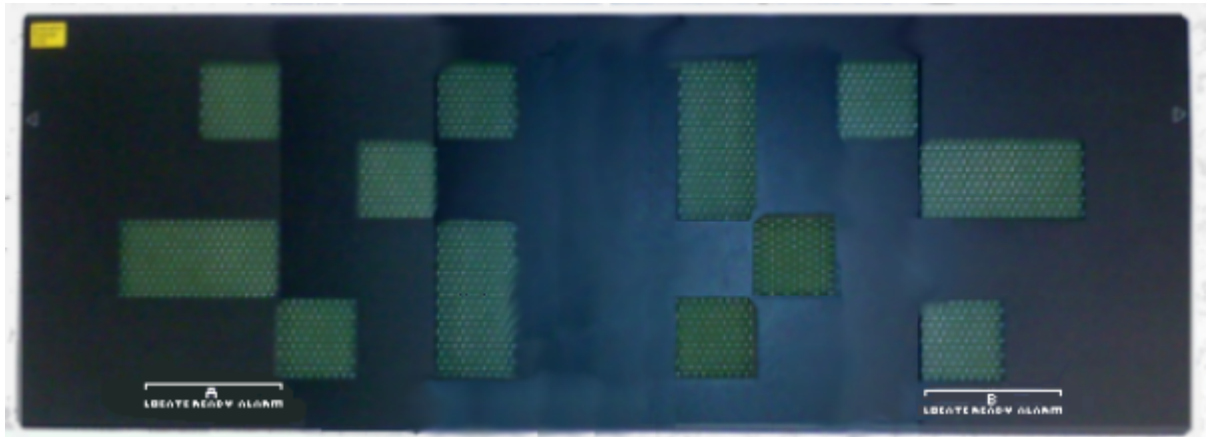
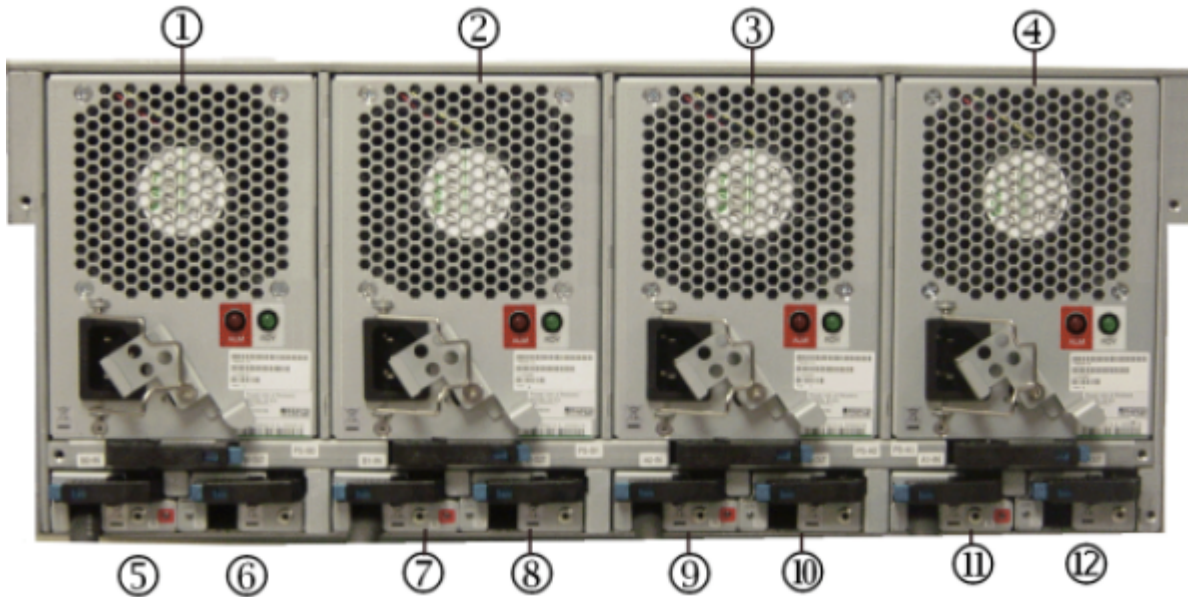

Figure 1-13 DBX (dense) drive tray front bezel
Figure 1-15 DBX (dense) drive tray rear panel
drives. Each drive unit contains two redundant power supplies and two ENC adapter boards that are used to connect the tray to the controller. The connection to the controller may be direct via ENC cable or via a daisy-chain connection through the ENC adapters in other drive trays See Figure 1-13 DBX \(dense\) drive tray front bezel on page 1-13 and Figure 1-15 DBX \(dense\) drive tray rear panel on page 1-14.
- **DB60** - a “high-density” 5U high tray containing up to 60 vertically mounted 2-1/2-inch (SFF) drives. This drive tray is functionally divided into two separate drive units (A and B), each containing a maximum of 30 drives. Each drive unit contains two redundant power supplies and two ENC adapter boards that are used to connect the tray to the controller. The connection to the controller may be direct via ENC cable or via a daisy-chain connection through the ENC adapters in other drive trays See Figure 1-13 DBX \(dense\) drive tray front bezel on page 1-13 and Figure 1-15 DBX \(dense\) drive tray rear panel on page 1-14.